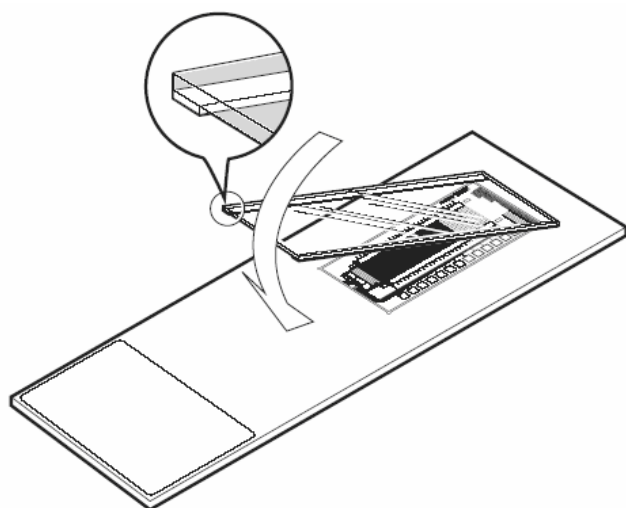

Figure 4. CustomArray™ 90K with LifterSlip™ coverslip
5. Lay the LifterSlip™ at an angle onto the microarray so that it is centered over the semiconductor area (see Fig. 4). First touch the Imaging Solution with one side of the LifterSlip™, then slowly lower the slip down, taking care not to introduce air bubbles. If bubbles still form, lift one side of the LifterSlip™ with forceps (or a razor blade) to let the bubbles out, and lower it down again.